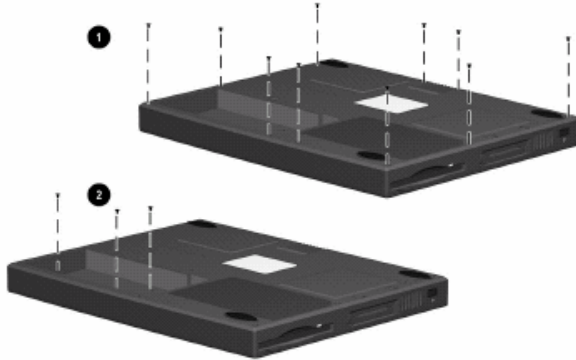

Figure 5-15: Removing the Top Cover Screws
3. Remove the 10 M2.5 × 7 screws 1 and the three M2.5 × 4.5 screws 2 securing the top cover to the base enclosure (Figure 5-15).